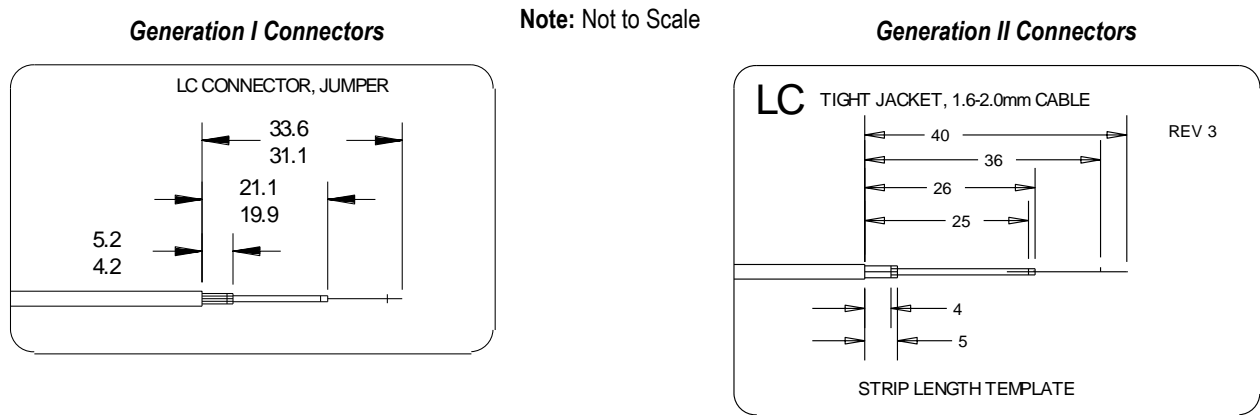

Figure 3
- Using the strip tool and shears, strip the cable using the applicable cable preparation template (refer to Paragraph 2.1 for part numbers). Templates at the time of publication of this instruction sheet are shown in Figure 3.